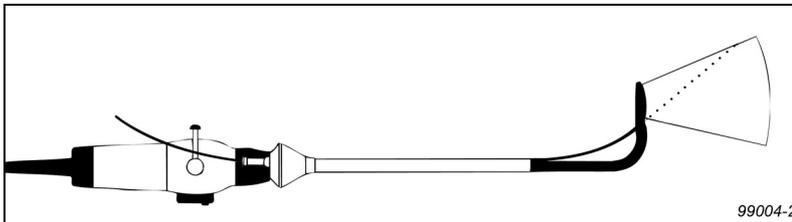

Fig. 11. Biopsy system and puncture line
2. Move the transducer until the puncture line (see Fig. 11.) transects the target.